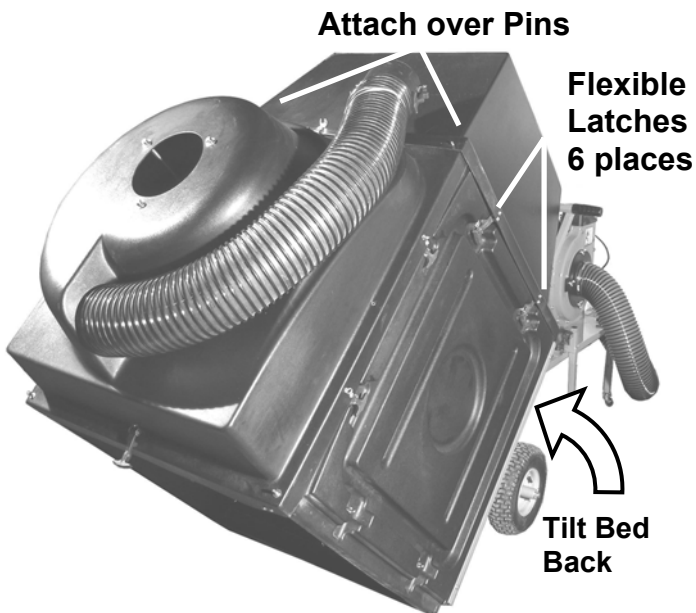

Figure 12
5. Attach the front enclosure panel on the protruding support pins and fasten the sides, top and bottom using the six (6) flexible latches (*Figure 12*). The mounting holes are located on top of the panels.
Tip: For ease of attaching the front box cover, pull the Dump Lever and tilt the body back. Set the front box cover over the protruding pins, one side at a time, making certain that the six (6) flexible latches are on the outside of the panels (*Figure 12*).